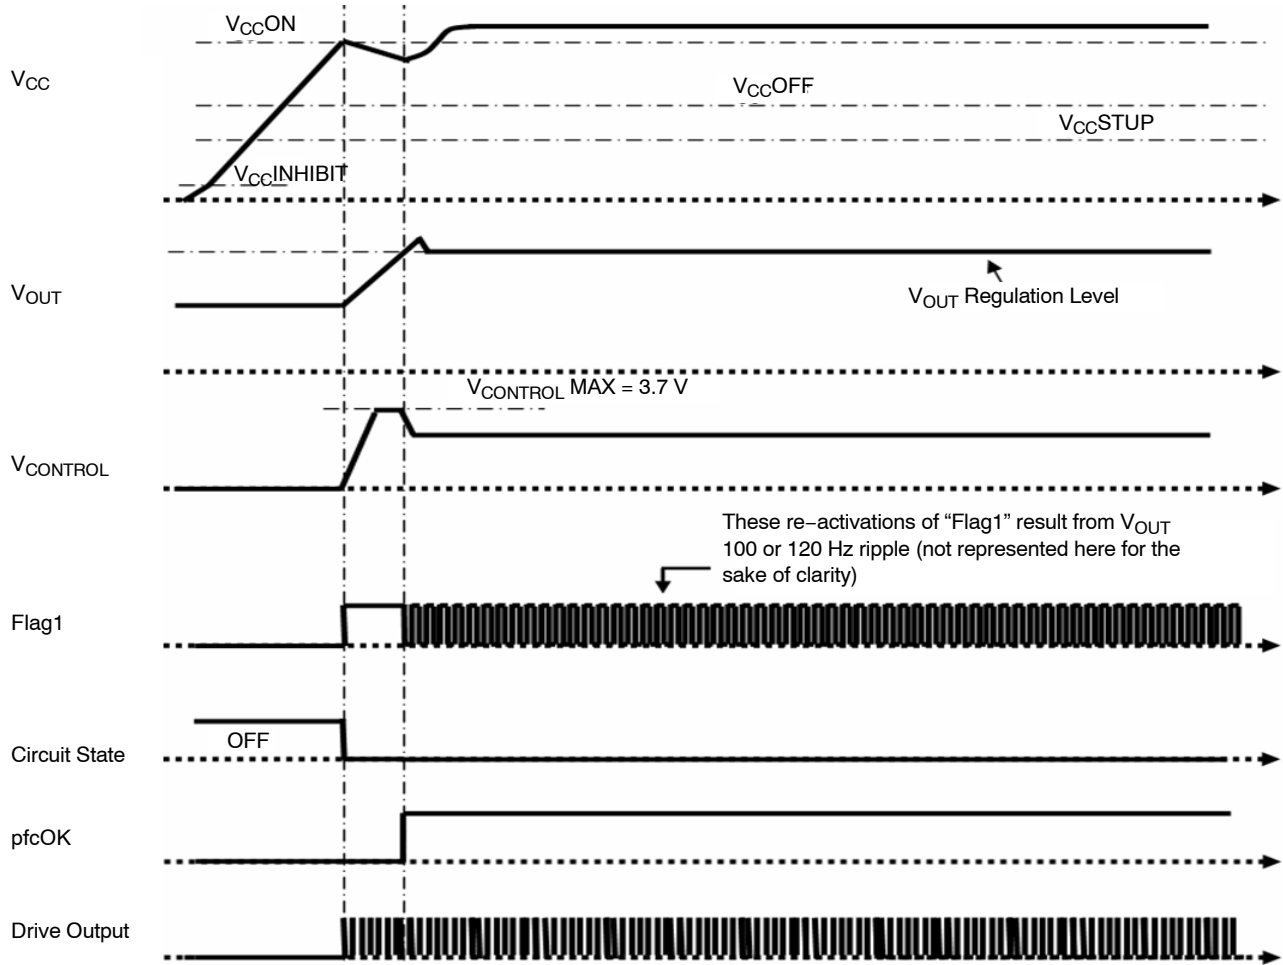

Figure 70. Startup Phase in Normal Conditions
- In case of normal conditions (Figure 70).
The output voltage exhibits a 100 or 120 Hz ripple (at twice the line frequency). This ripple is also present in the $V_{CONTROL}$ voltage even if it is attenuated due to the regulation low bandwidth. Like that of V_{OUT} , this ripple is not represented in Figure 70, for the sake of the clarity.